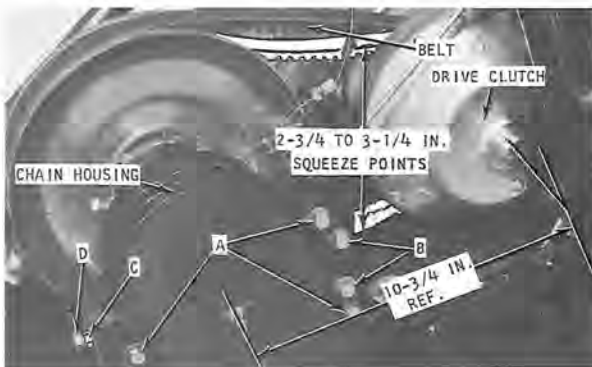
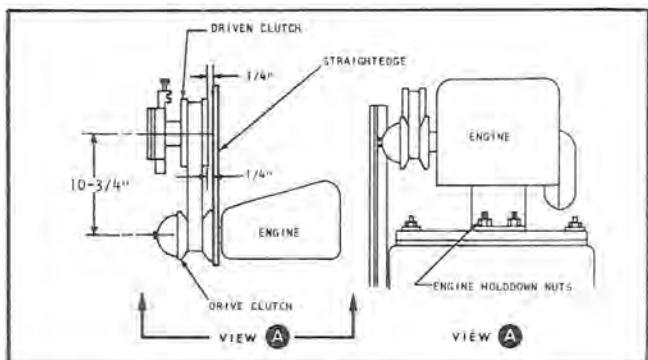

Figure 3
Figure 3A
1. Loosen three bolts marked A (figure 3) and the two nuts securing the lower chain housing to the main frame. DO NOT loosen bolts marked B.
NOTE: Proper tension for a NEW belt is obtained when clutch centers are spaced 10-3/4 inches apart (figure 3A). Proper tension for a used belt is obtained when the opposite sides of the belt can be squeezed together to within 2-3/4 to 3-1/4 inches of each other at the drive clutch (see figure 3).
2. Loosen the four bolts securing the engine to the engine mount (figure 3A).
1. Remove cotter pin and tighten castellated nut on brake arm until the brake pad just clears the driven pulley (figure 3). Reinstall cotter pin.